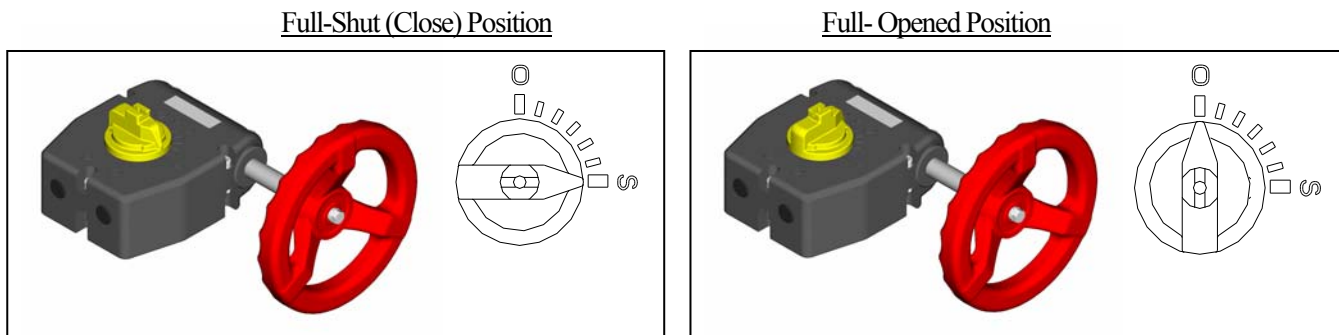

Fig. 7-2
- 3) In case of gear type (40-400 mm {1 1/2"-16"}), the indicator shows the position of the disc on the top of gear box. (Fig.7-2)
- For the full-shut (close) position, the indication shows Shut (S).
- For the full-opened position, the indication shows Open (O).